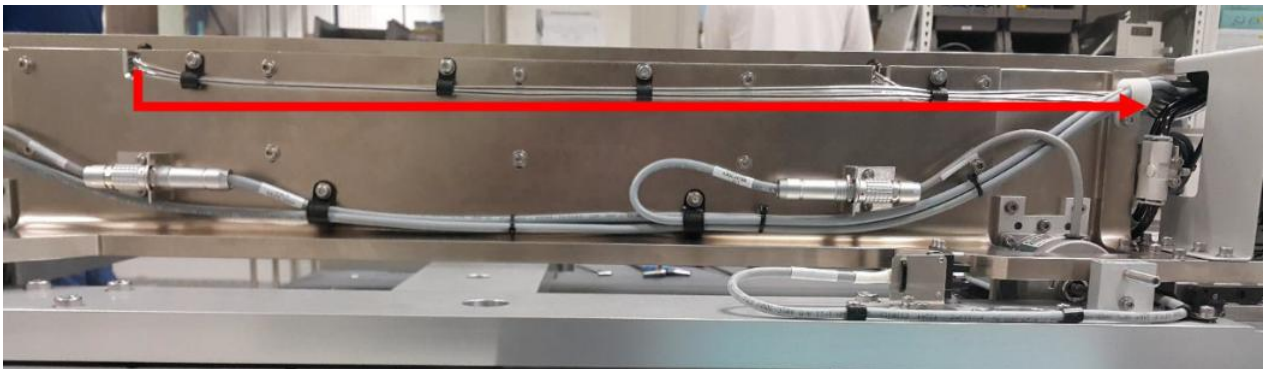

Figure 30 Sensor 4 Emitter Cable Routing
9. Route Sensor 4 Emitter Cable as shown in Figure 30.